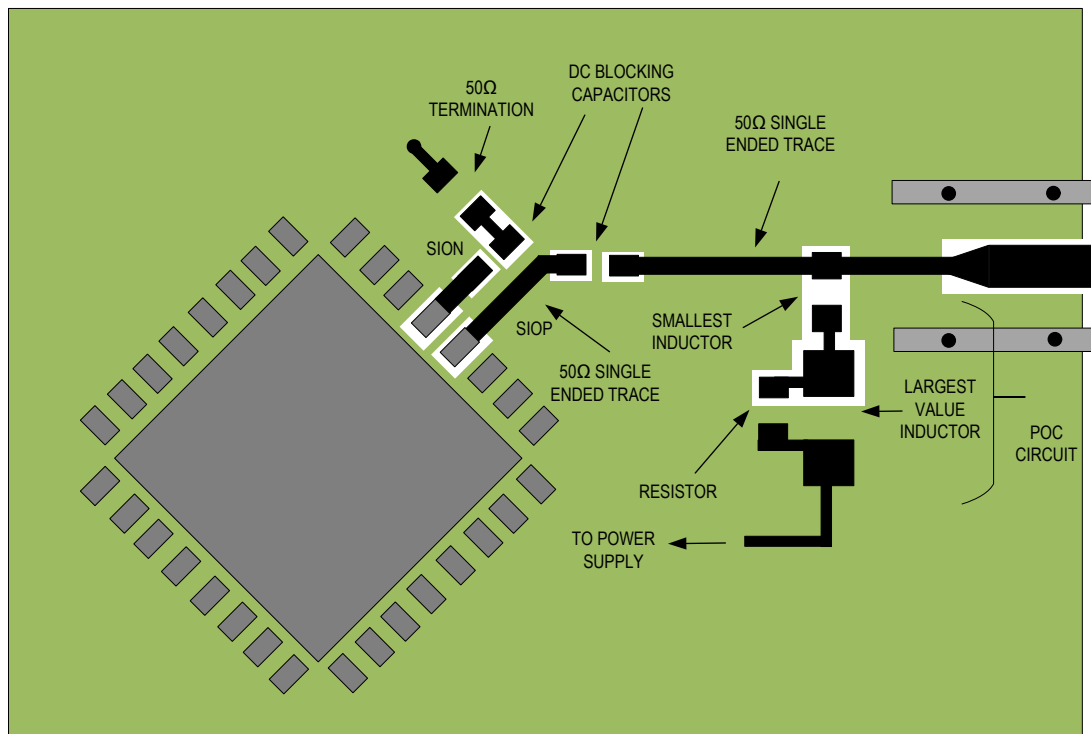

Figure 38. Coax PoC Layout Example
- Use ground cutouts as needed under first two inductors and resistors. See Figure 38.